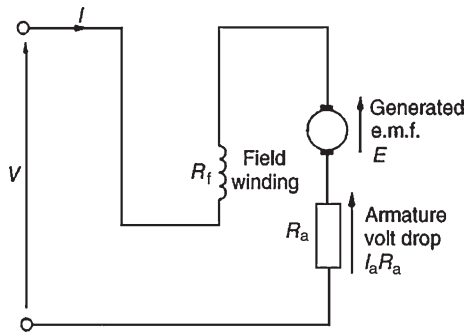

Figure 22.20
In the series-wound motor the field winding is in series with the armature across the supply, as shown in Fig. 22.20.
For the series motor shown in Fig. 22.20,
- (a) With reference to Fig. 22.20, generated e.m.f., E_1 at initial load, is given by